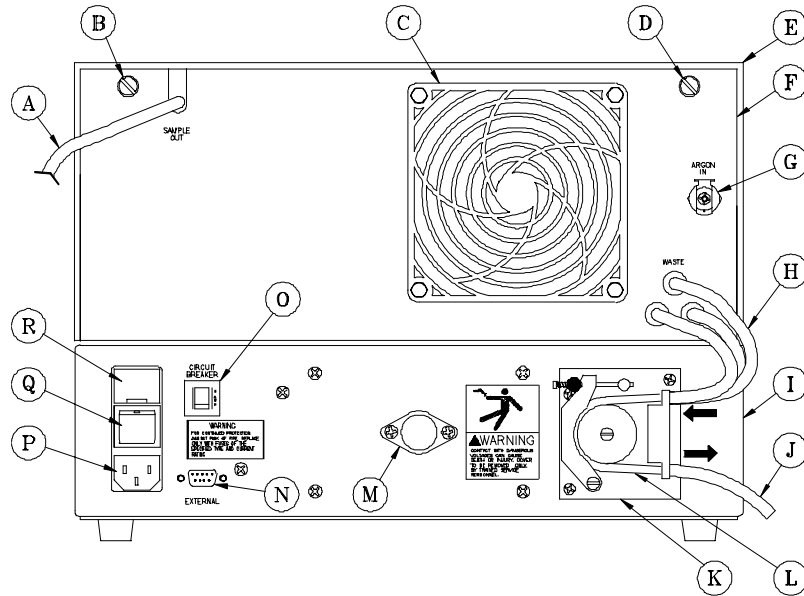

Figure 1-2. U-5000AT⁺ Design—Back View.
The following components are located on the back of the U-5000AT⁺ Ultrasonic Nebulizer. Each lettered item corresponds with a callout in Figure 1-2.
- 1 Connect the length of 1/8" I.D. Tygon tubing to the outlet of the fittings from the pump (K), (Figure 1-2).***